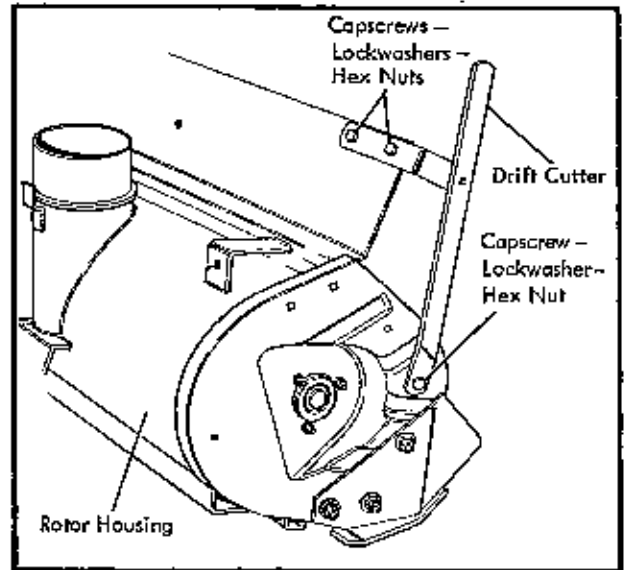

Fig. 3
3. Assemble the drift cutters in place on each side of the rotor housing as shown in figure 3.